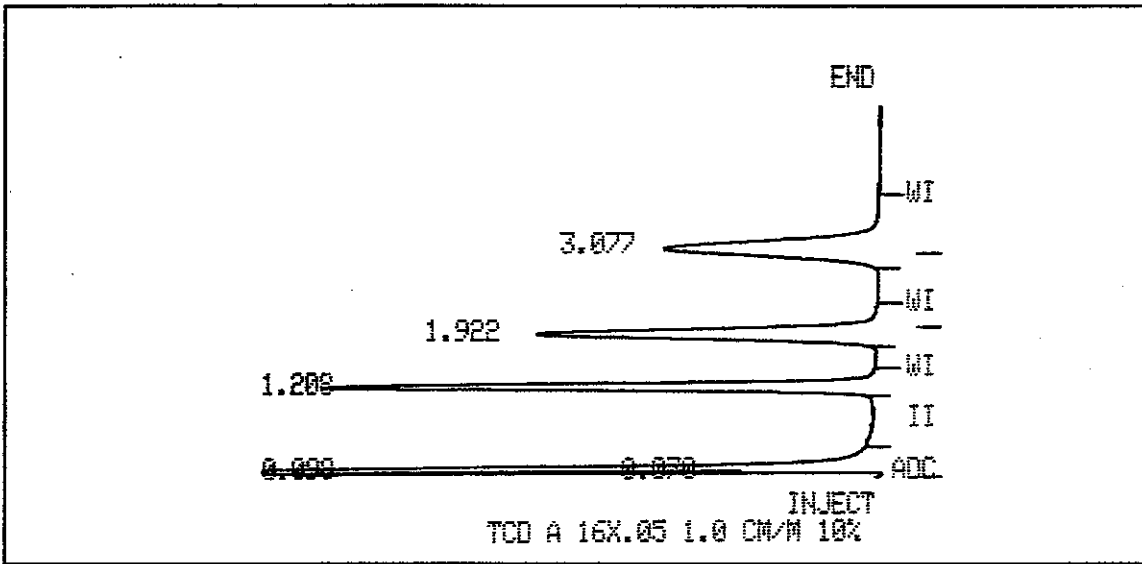

Figure 18a Packed Column (TCD)
5. Compare the test chromatogram for peak separation, peak heights, and retention times with the chromatogram in Figures 18a-18c.